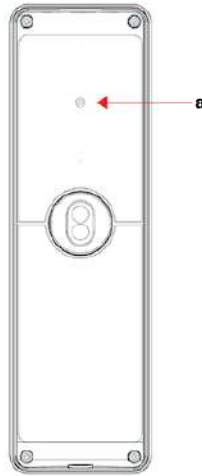

Figure 10 Admin button (a) on the back of Avigilon Video Reader Pro
3. Press Admin button (Figure 10 on the next page) on back of Video Reader Pro.